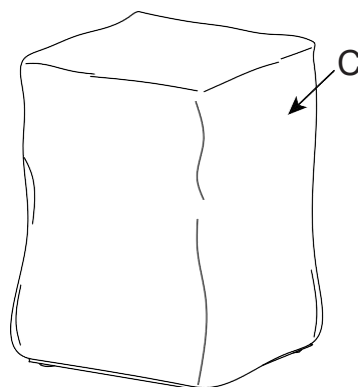

Figure 5
- Cover the fire pit with the outdoor weather cover (C) when not in use to protect it from the elements or when fire pit is cool COMPLETELY after the use (See Figure 5).